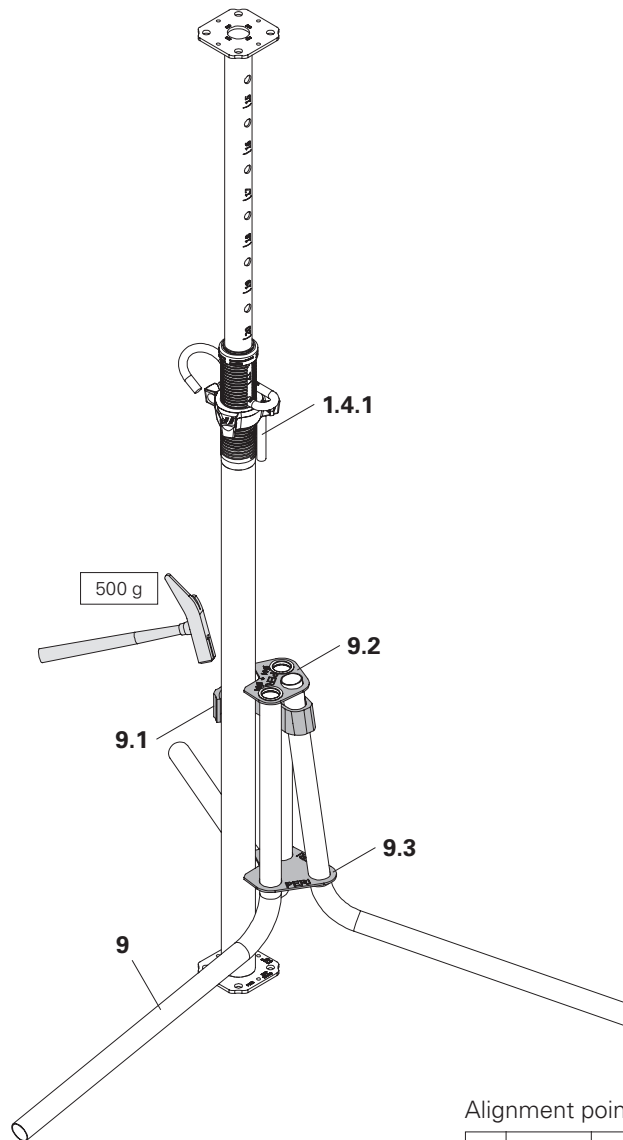

Fig. A1.03
1. Attach a pre-assembled Slab Prop to the tripod Ø44 – 64 mm (9) (Fig. A1.03)
2. Tighten the push-pull device (9.1) with a hammer (Fig. A1.03)